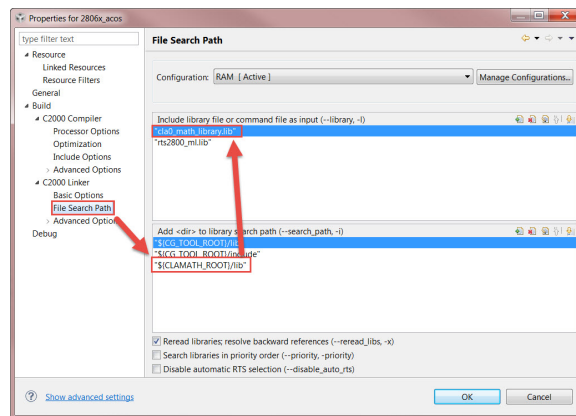

Figure 4.7: Adding the library and location to the file search path
4. Add the name of the library and its location to the **File Search Path** as shown in Fig. 4.7.